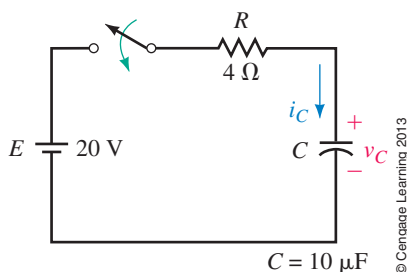

FIGURE 11–50
An electronic device employs a timer circuit of the kind shown in Figure 11–32(a), that is, an RC charging circuit and a threshold detector. [Its timing waveforms are thus identical to those of Figure 11–32(b).] The input to the RC circuit is a 0 V to $5 \text{ V} \pm 4\%$ step, $R = 680 \text{ k}\Omega \pm 10\%$, $C = 0.22 \mu\text{F} \pm 10\%$, the threshold detector activates at $v_C = 1.8 \text{ V} \pm 0.05 \text{ V}$, and the required delay is $67 \text{ ms} \pm 18 \text{ ms}$. You test a number of units as they come off the production line and find that some do not meet the timing spec. Perform a design review and determine the cause. Redesign the timing portion of the circuit in the most economical way possible.
- The capacitor of Figure 11–50 is uncharged.